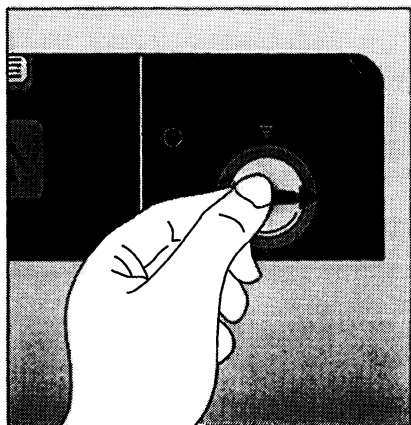

Fig. 5
- To adjust the dispenser, turn the locking lid of the rinse aid dispenser a quarter of a turn anti-clockwise and open. (Fig. 5)